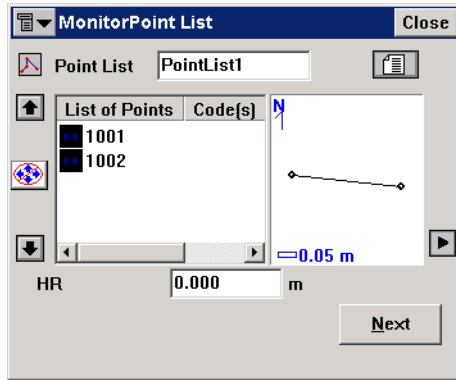

Figure 6-60. Monitor Point List
3. Select **Survey ► Monitor** to open the **Monitor Pointlist** screen used for loading the desired point list (Figure 6-60 on page 6-47).